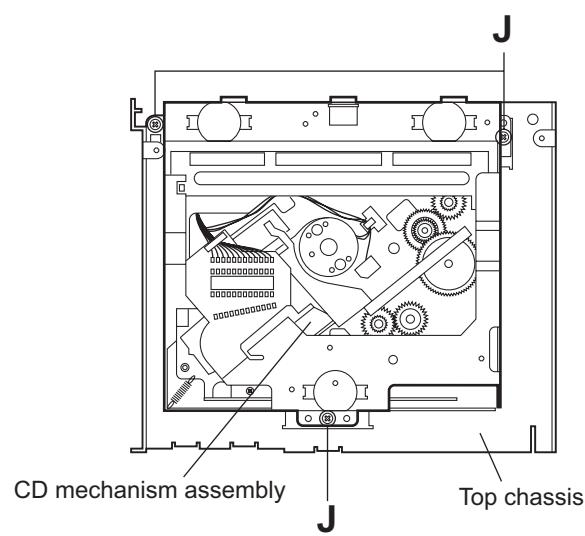

Fig.10
2.1.7 Removing the CD mechanism assembly (See Fig.10)
2.2.5 Removing the clamper assembly (See Figs.10 and 11)